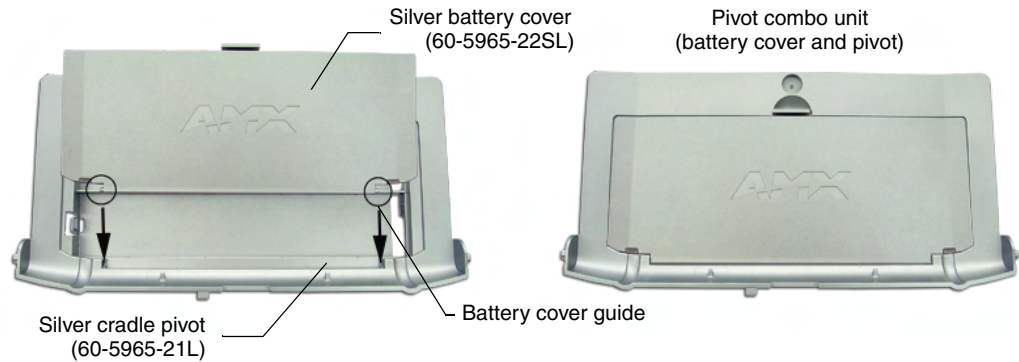

FIG. 25 Installation of silver cradle pivot and battery cover
4. Install the silver Battery Cover to the silver cradle pivot by inserting each battery cover guide into its corresponding opening along the sides of the pivot as shown in FIG. 25.